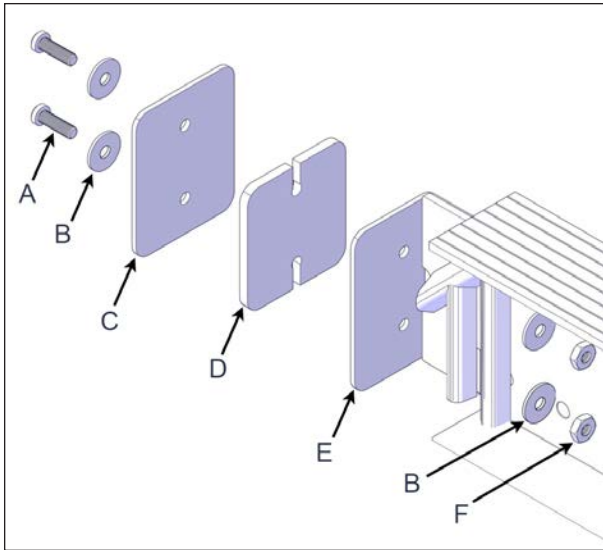

FIGURE 35: I-BEAM WITH THE SHORT I TO C CONNECTION PLATE INSTALLATION
4. Use #10-32 x 5/8" screws and #10-32 nuts. Insert the I to C spacer in between the I to C connection plate and the bracket. The screws and nuts can now be properly tightened see Figure 35.